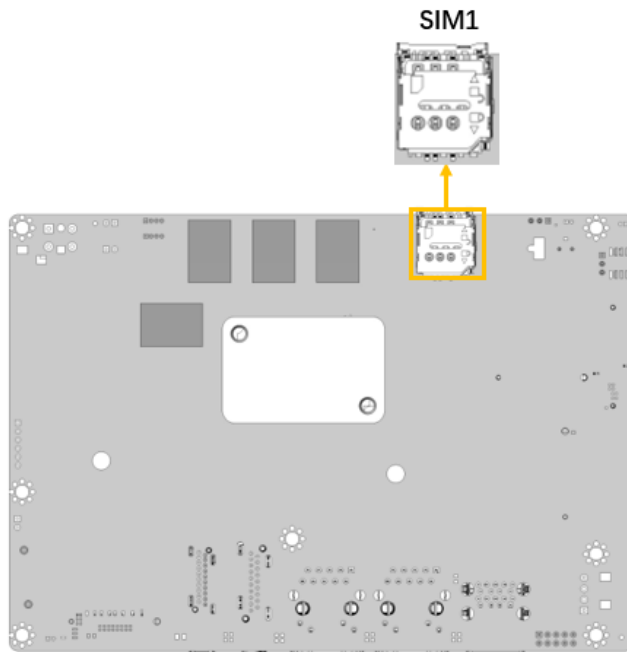

Figure 3-26: SIM Card Slot Location
- CN Location:** See Figure 3-26